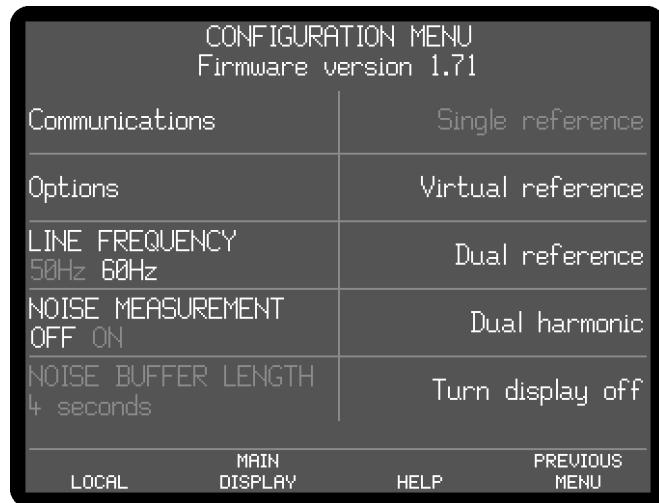

Figure 2-8, Configuration Menu
- 4) Press one of the keys adjacent to the Configuration menu item to enter the Configuration menu, shown below in figure 2-8.
- 5) The present line frequency setting is shown under the LINE FREQUENCY label and is either 50 or 60 Hz. In figure 2-8, the filter is set to 60 Hz. If this setting does not match the local line frequency, then press a key adjacent to this item once to change it.